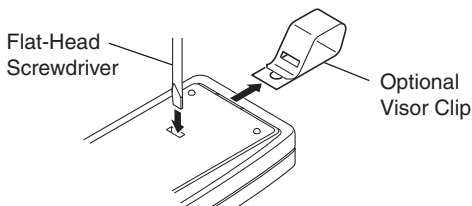

Figure 3 - Removing Visor Clip (Rear View)
1. To attach car visor clip to remote control (if desired) push it into slot on rear of remote unit until it snaps into place (see Figure 3).
2. To remove car visor clip, insert a small, flat-head screwdriver into slot on back of remote. Gently push down on portion of visor clip inside slot with screwdriver while pulling clip out of remote from top (see Figure 3).